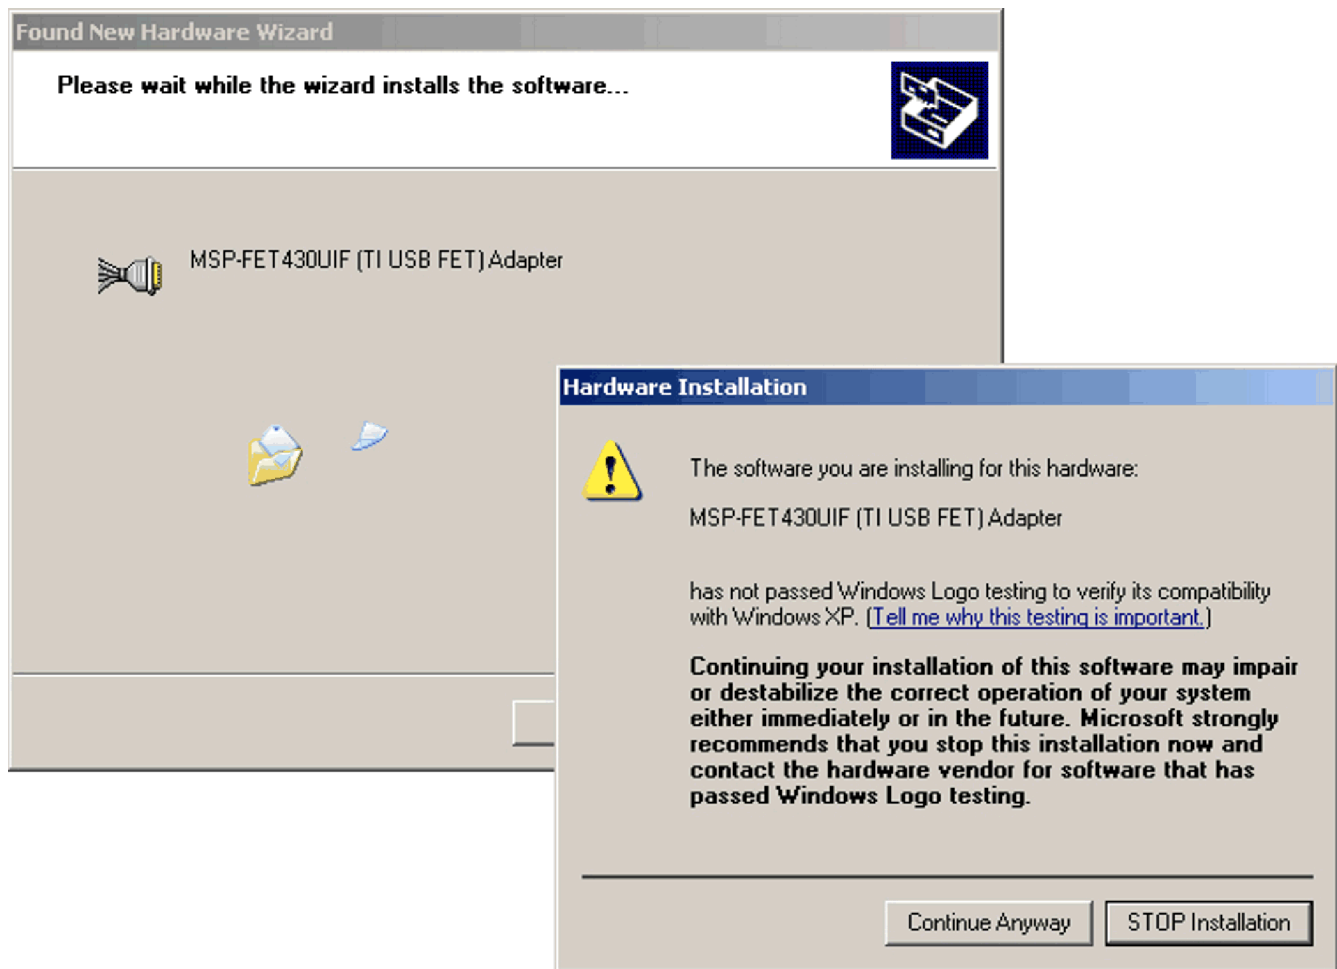

Figure E-4. WinXP Driver Installation
8. Note that WinXP shows a warning that the driver is not certified by Microsoft®. Ignore this warning and click "Continue Anyway" (see Figure E-4).